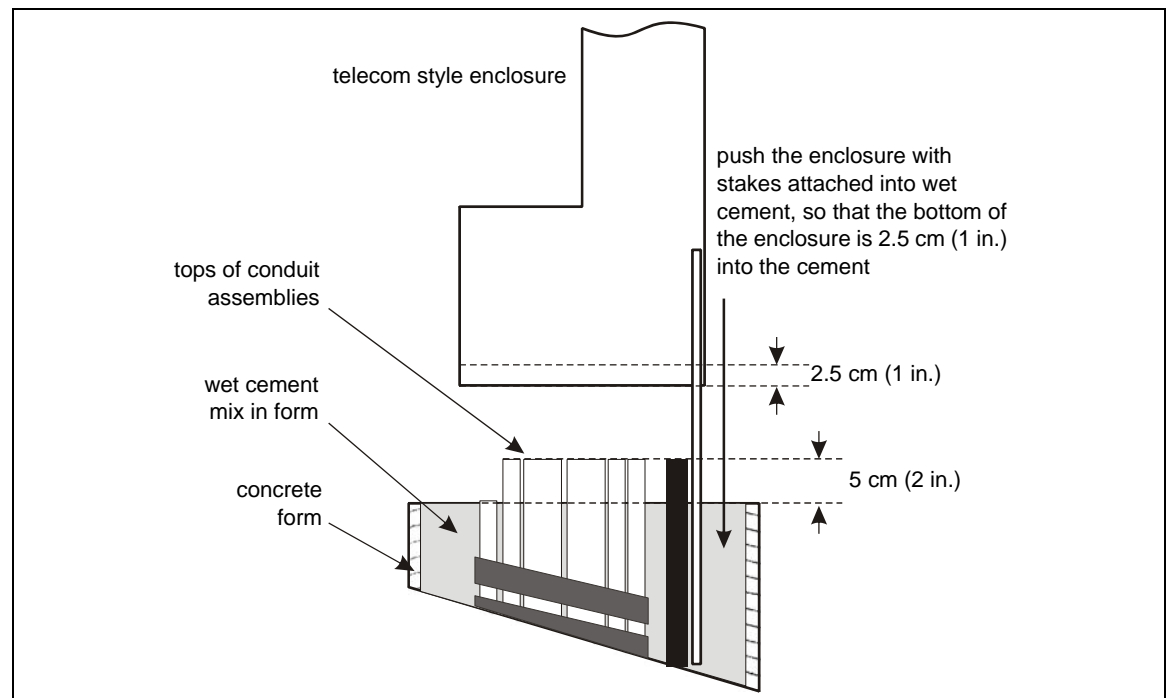

Figure 54: Placing the telecom enclosure in concrete
1. Position the base of the enclosure over the pipes and push it into the wet concrete so that the bottom edge of the enclosure is approximately 2.5 cm (1 in.) deep (see Figure 54: Placing the telecom enclosure in concrete).